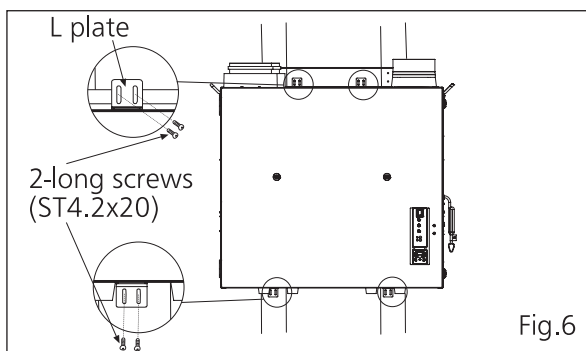

Fig.6
4. Attach L plate on to stud with long screws (ST4.2X20). (Fig.6)